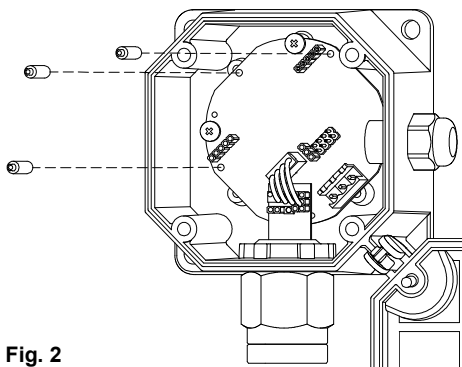

Fig. 2
3. Insert the three turrets provided into the transmitter, as shown in Fig. 2).